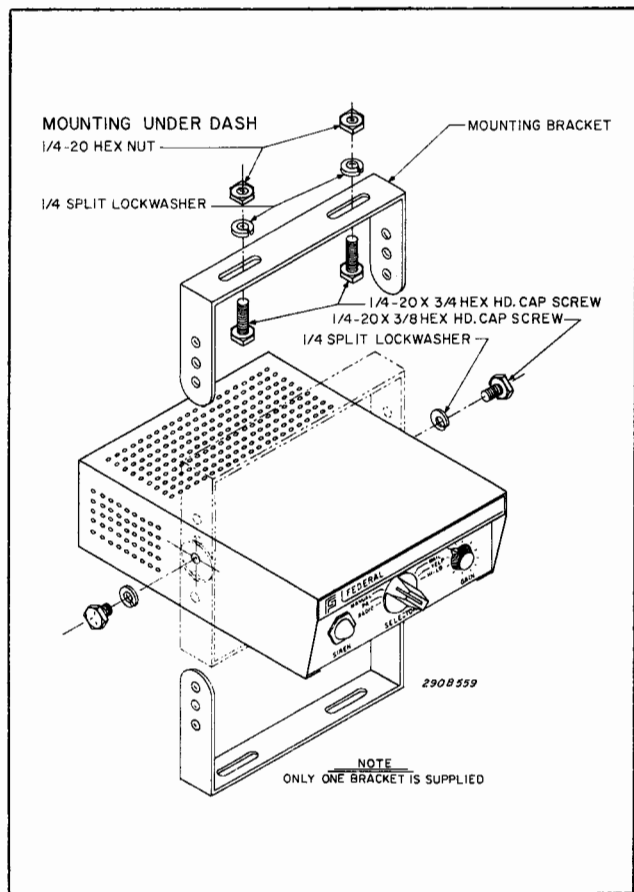

Figure 3-1. Model PA 150 Mounting Under the Dash.
The PA 150 is equipped with a swinging mounting bracket. This bracket makes it possible to install the siren in any one of a variety of positions. As indicated in figure 3-1, the siren can be mounted beneath the dashboard by positioning the bracket above the siren. Positioning the bracket below the siren allows mounting on any horizontal surface or, in conjunction with Federal's TU-70 Tunnel Mount, on the vehicle's transmission hump.
C. Secure the mounting bracket to the dash with (2 each) 1/4-20 x 3/4 hex. head screws, 1/4 split lockwashers and 1/4-20 hex. nuts as shown in figure 3-1.